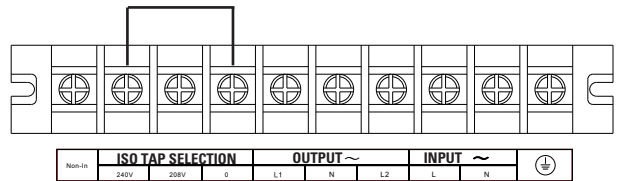

Fig. 10. Wiring for input voltage of 240 V.
- If the input voltage is 240 V, the jumper must be inserted between the ISO TAP selection 0 and 240 V terminals, as shown in Fig. 10: